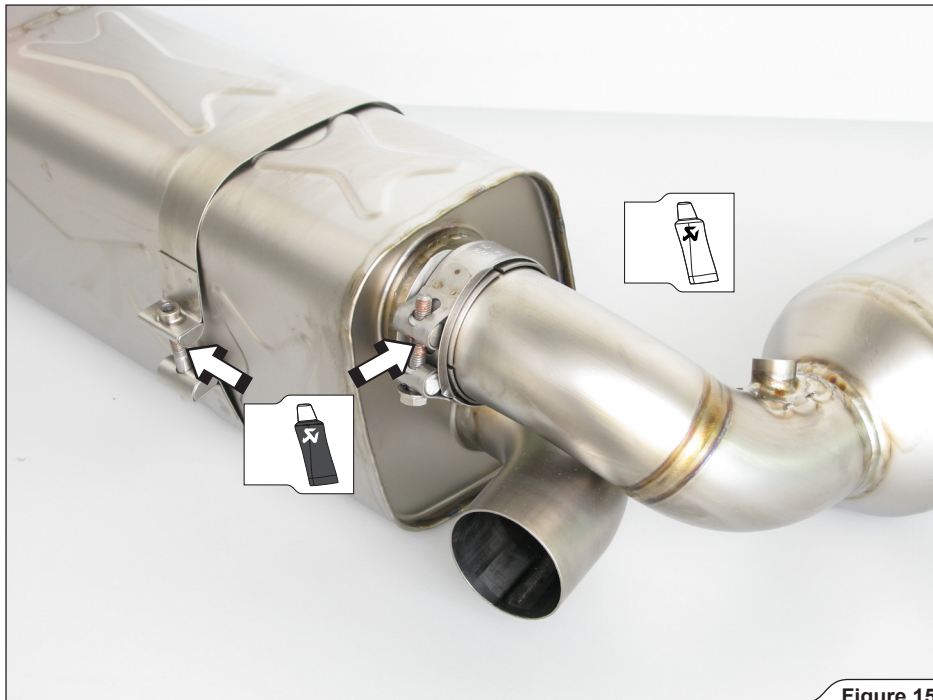

Figure 15
2. **For Slip-On and Evolution:** assemble Akrapovič muffler and link-pipe clamps onto the muffler on both sides as shown; hand tighten the bolts. Insert the link pipe into the muffler (**Figure 15**). Repeat the process on both sides the muffler.